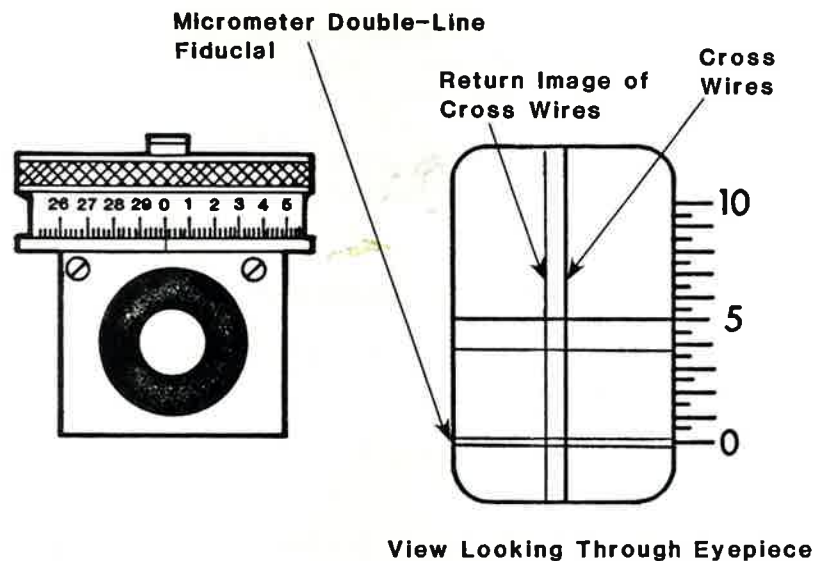

Figure 3. Micrometer Setting and View Through Eyepiece Before Centering Lines
2. Turn the micrometer drum to bring the fine double-line fiducial (Figure 3) into the field of view.
When the fiducial is centered on one of the lines of the reticle scale as in Figure 3, the micrometer drum will be at zero. One full revolution of the drum advances the fiducial to the next scale line. This corresponds to an angular increment of 30 seconds, as indicated by the numbers on the drum. Each long line on the reticle scale equals one minute of arc, and the numbers in the field of view show the 0, 5 and 10 minute positions.